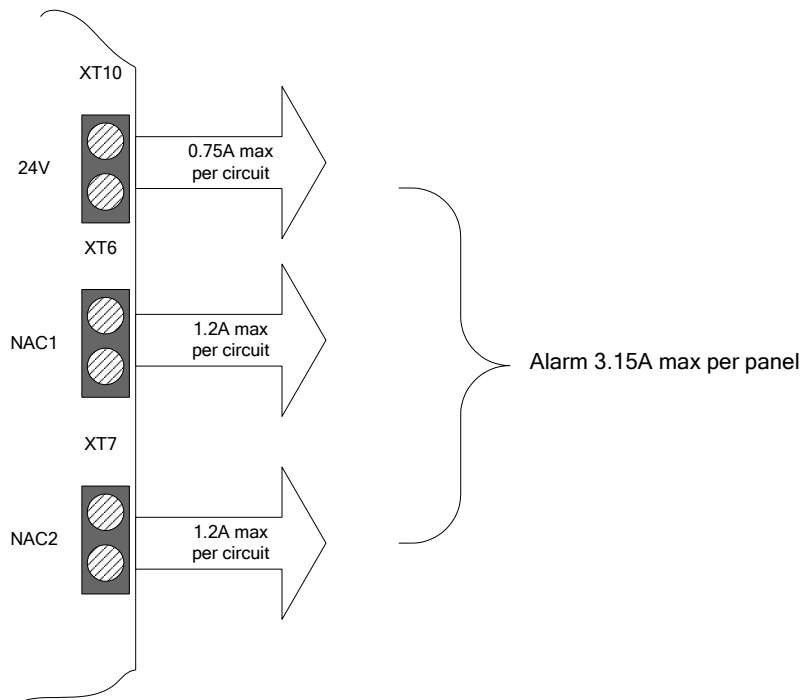

Fig. 1-1
- Rated signaling current per circuit: 0.001A (see Fig. 1-1)
- Maximum signaling current per circuit: 1.2A (see Fig. 1-1)